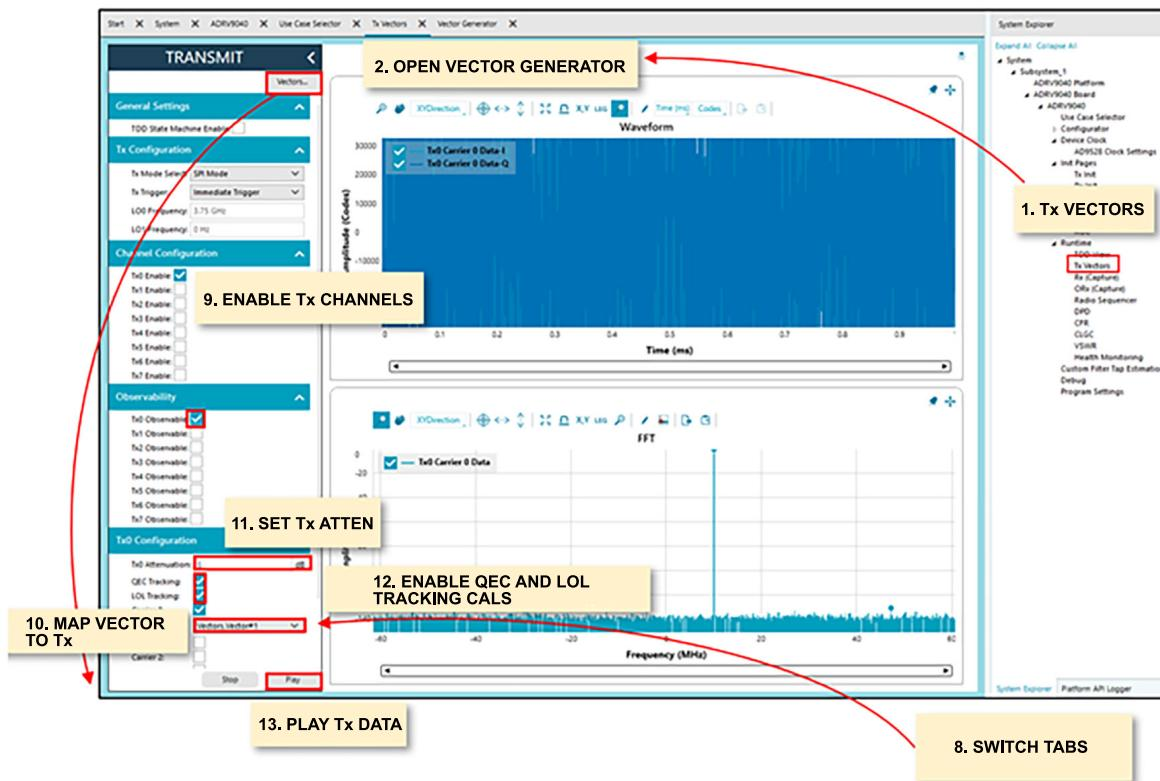

Figure 49. Tx Vectors Page is Used to Enable Tx Channels, Map Vectors to Each Enabled Tx, and Plot the Baseband Vectors
1. Launch **Tx Vectors** from **System Explorer > Runtime > Tx Vectors** as shown in Figure 49.